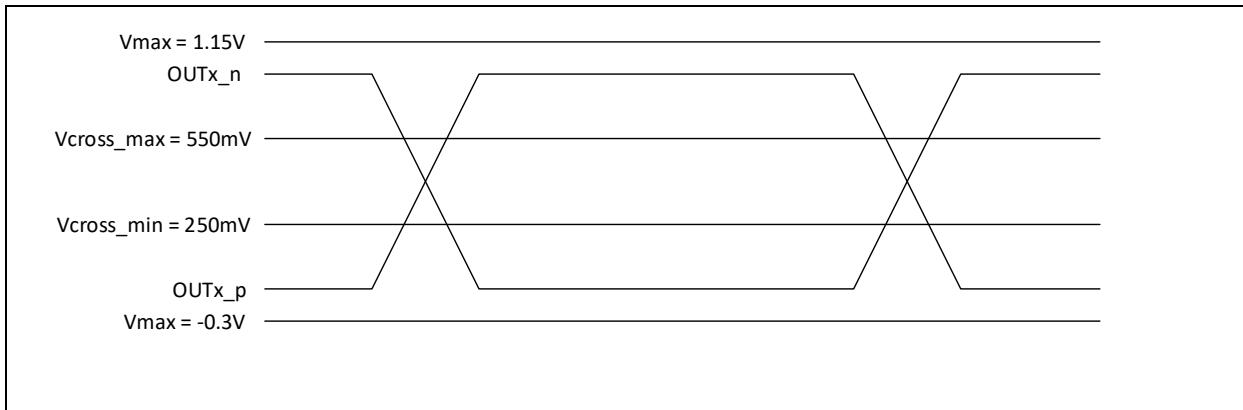

Figure 18. Single-Ended Measurement Points for Absolute Cross Point and Swing
(4) Measured at crossing point where the instantaneous voltage value of the rising edge of CK equals the falling edge of CK#. See Figure 18
(5) Refers to the total variation from the lowest crossing point to the highest, regardless of which edge is crossing. Refers to all crossing points for this measurement. See Figure 18.
(6) This requirement, from PCI Express Base Specification, Revision 4.0 is applicable only to clock generators and not to buffers. A clock buffer is a transparent device whose output clock period follows the input clock period.
(7) Defined as the maximum instantaneous voltage including overshoot. See Figure 18.
(8) Defined as the minimum instantaneous voltage including undershoot. See Figure 18.